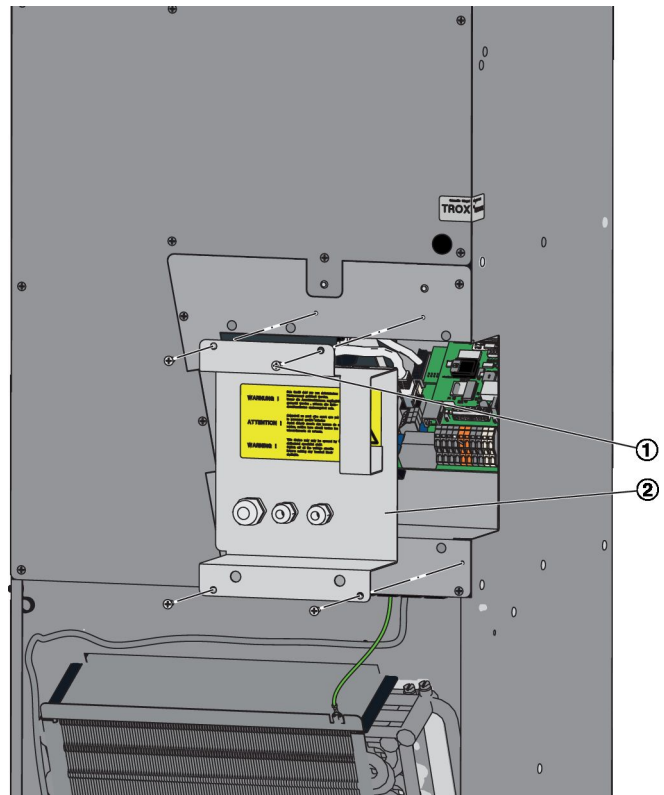

Fig. 10: Electrical connections
1. ▶ Take off the controls access panel (Fig. 10/2); to do so, loosen the Phillips screws (Fig. 10/1), then remove the panel.